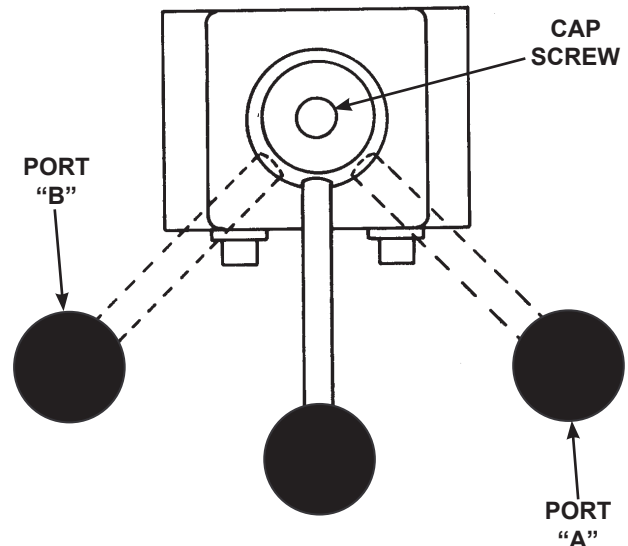

FIGURE 1
- Move the valve handle to any position by loosening the cap screw and rotating the stem in increments of $22\frac{1}{2}^{\circ}$ to the position desired. Torque the cap screw 60/80 in. lbs. See Figure 1.